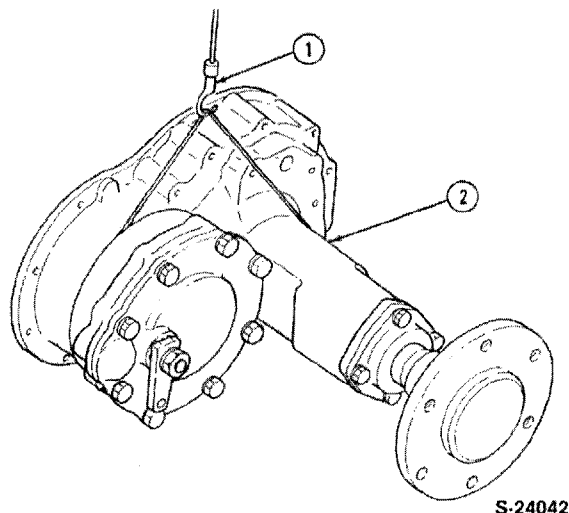

Figure 39
15. Carefully remove the rear axle assembly from the tractor, Figure 39.